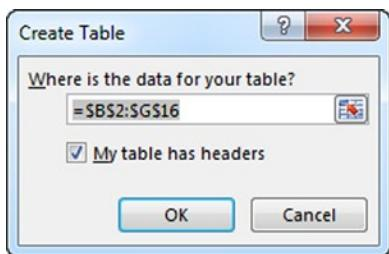

Figure 21-4. The Create Table dialog box
3. Make sure the “My table has headers” check box is selected (see Figure 21-4).